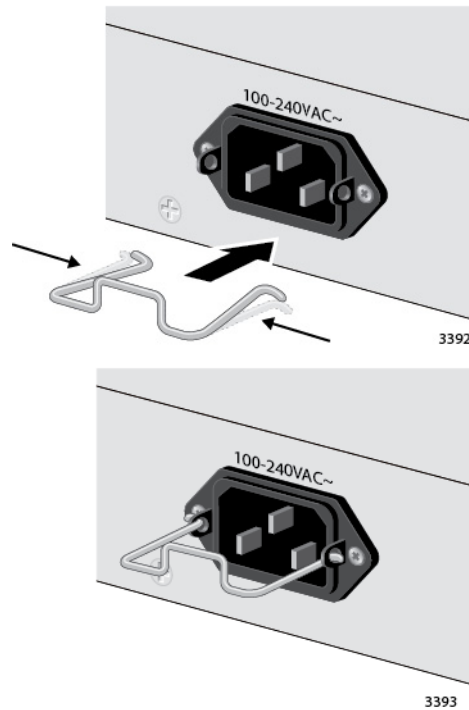

Figure 26. Installing the Retaining Clip
1. Position the power cord retaining clip with the “u” part facing down, press in the sides, and insert the ends of the clip into the holes in the retaining bracket on the AC connector. See Figure 26.